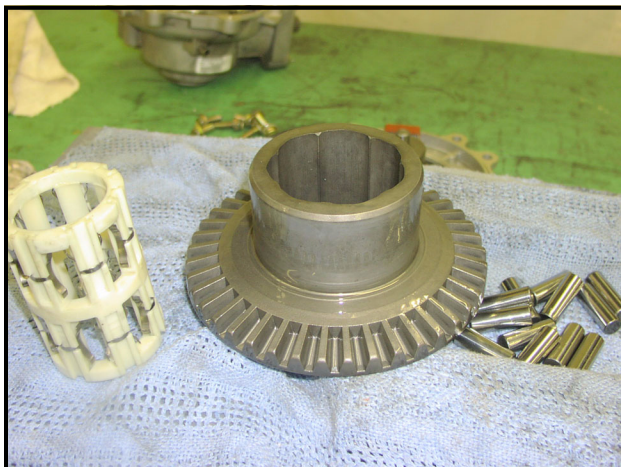

Figure 9-37 Ring Gear Hub, Clutch and Bearings
2. Position a clutch cage and roller bearings close to the ring gear and hub (**Figure 9-37, Page 9-13**).